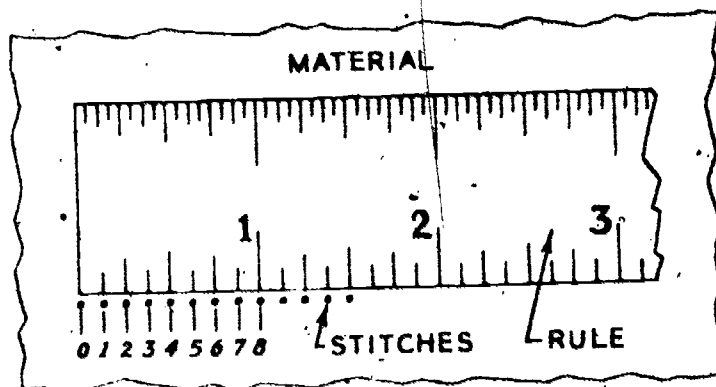

Figure 6. Checking Stitches Per Inch.
3. Use a rule and count the actual number of stitches per inch being sewn. Place the first stitch at the edge of the rule and count the stitches as shown in figure 6. If the actual count and the number in the hole in the machine arm are the same, the feed indicating disk is properly set. If the actual count is different, set the indicator disk.